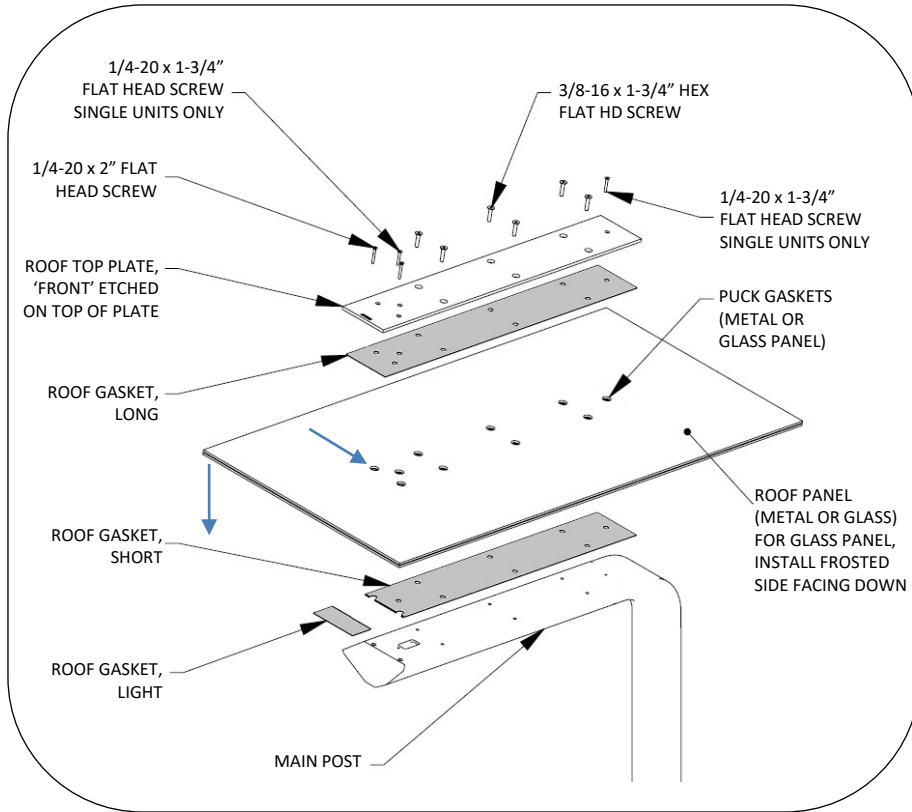

FIG. 8 – INSTALL ROOF PANEL
11. Install roof panels as shown in Fig. 8. For glass roof panels, glass panel is installed with frosted side facing down. Note orientation of holes in panel. Do not overtighten hardware.